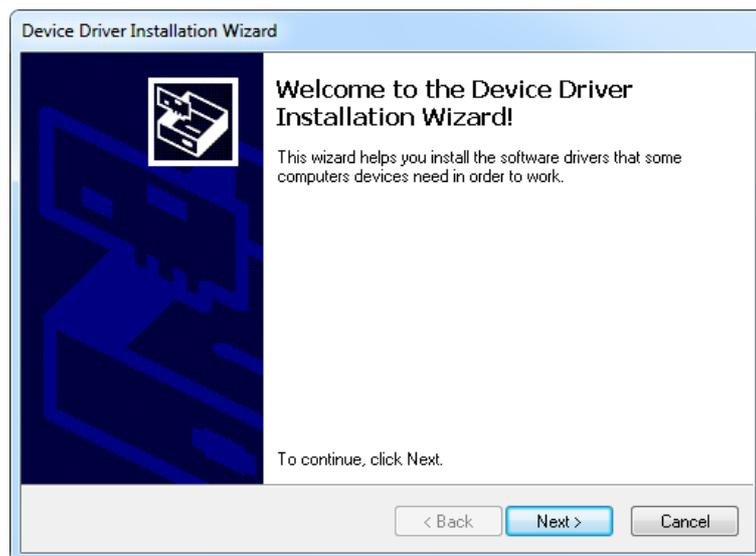

Fig. 5-7 Start the installation.
3. After extraction click on **Continue** (Fig. 5-7) and follow the installation instructions.